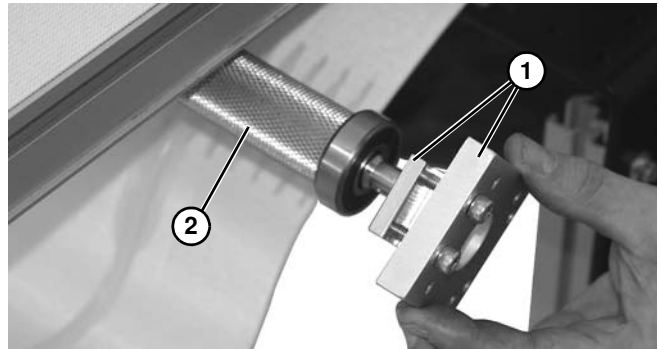

Figure 75
6. Separate mounting blocks (**Figure 75, item 1**) from spindle (**Figure 75, item 2**).